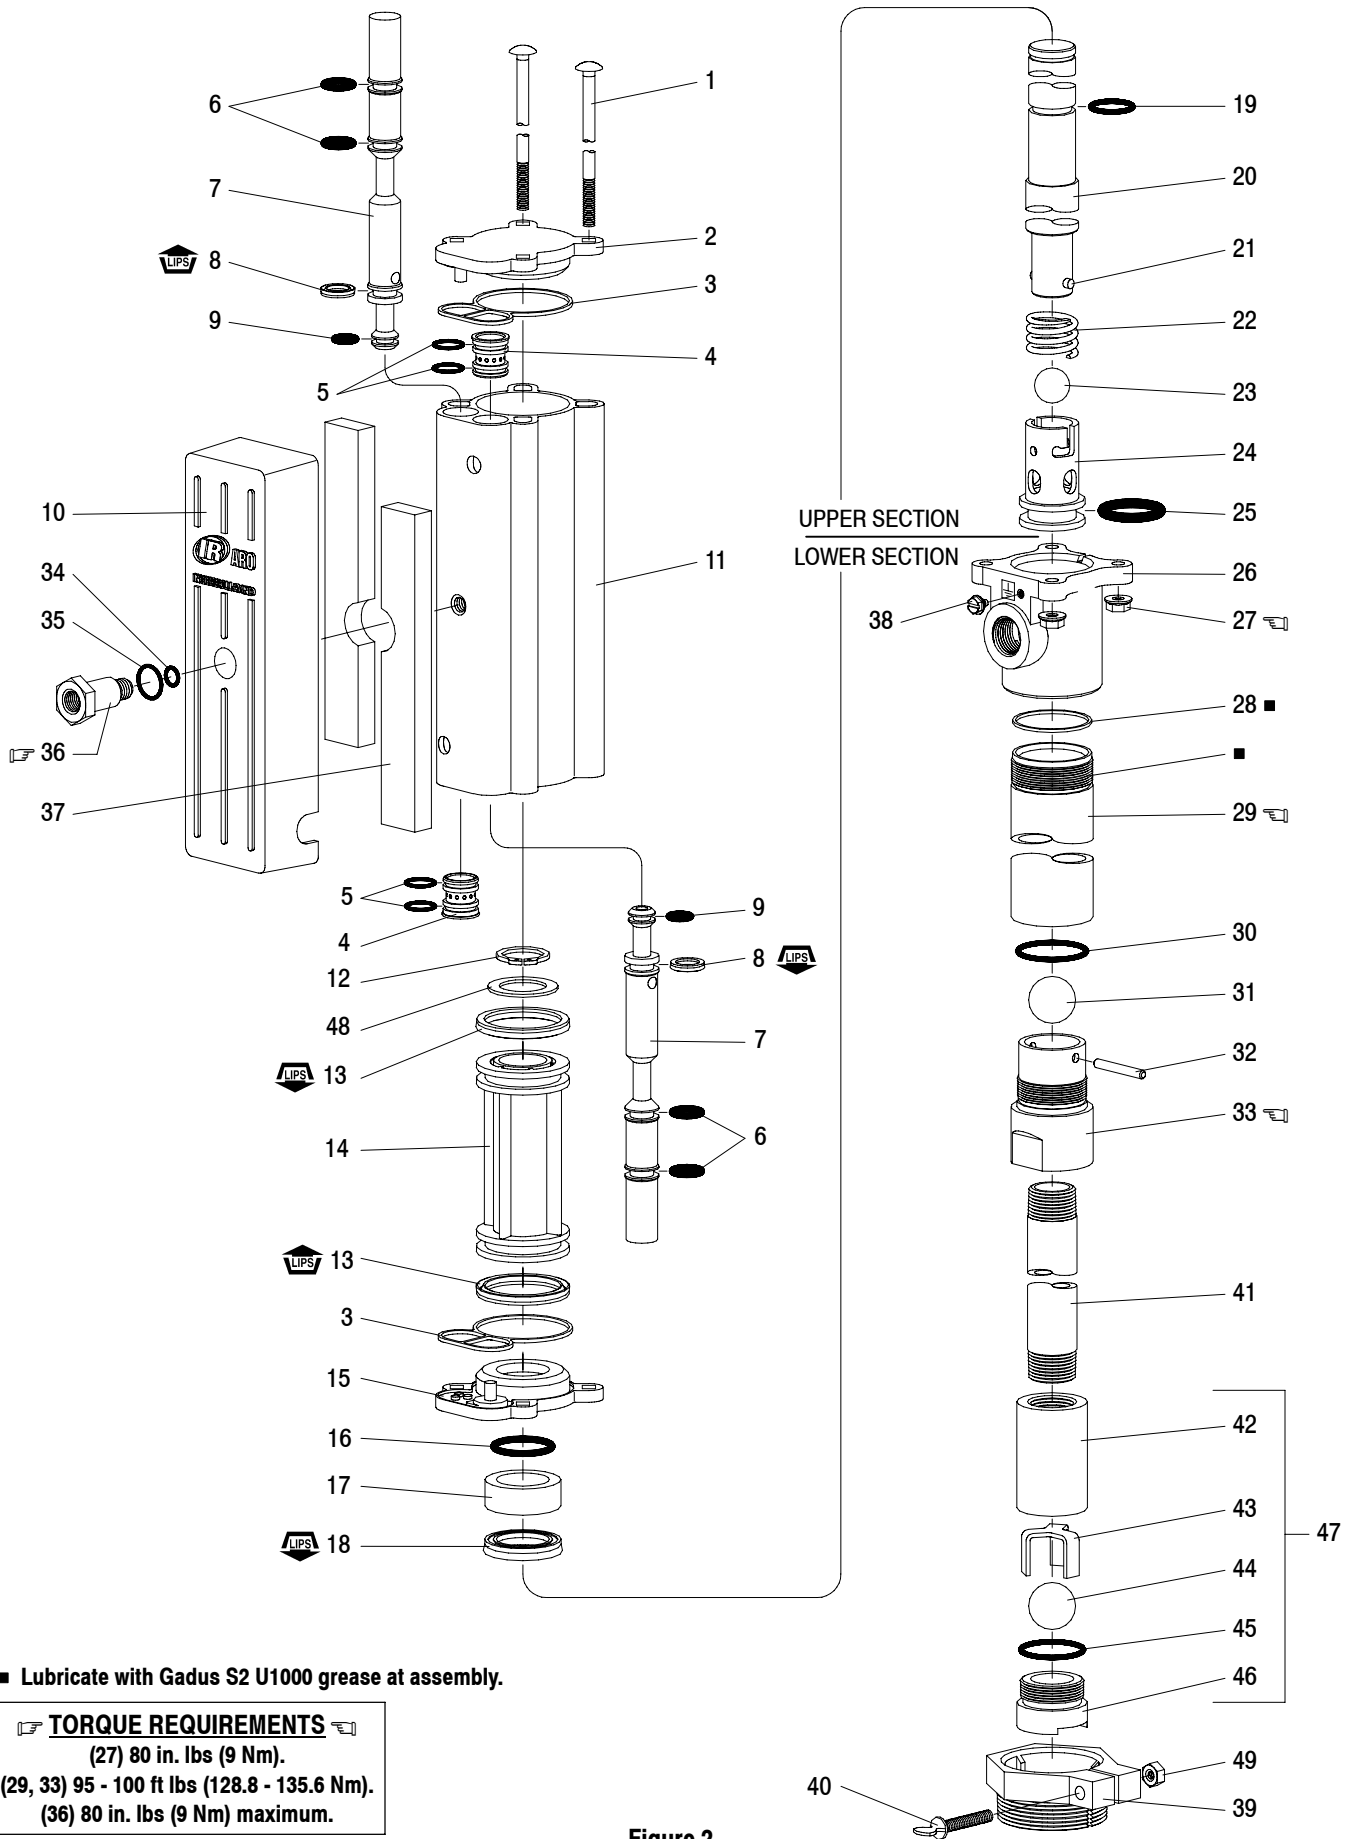

Figure 2
DISASSEMBLY - All threads are right hand. Refer to figure 2. These procedures are for the installation of repair kit parts. Disconnect air supply and relieve all system pressure prior to servicing. Carefully remove the parts, inspect parts for damage, nicks or excessive wear and determine if any parts will need replacement.
Note: Refer to the illustration (figure 2) for "U" cup lip seal direction.
1. Replace the seals on both the (7) spools and (4) sleeves.
2. Locate the valve chamber on the (11) cylinder where the 3/8" dia. hole is located and install one of the (4) sleeves. Insert the (7) spool from the opposite end. Next, install the remaining sleeve and spool.
3. Replace the (3) track gasket and install (2) cap.
4. Replace the (13) piston "U" cups (refer to figure 2 for proper orientation). Replace the (19) "O" ring and assemble (14) piston to (20) piston rod and retain with (48) washer and (12) retaining ring.
6. Replace the (3) track gasket and install the (15) cap. Install the (16) "O" ring onto the piston rod, replace (17) bushing and (18) packing.
7. Replace the (25) "O" ring and re-attach the (24) inner check.
8. Slide the pump assembly back into the (26) base / lower pump section. Press the sections together and align the air inlet and pump outlet as required and replace the four (1) bolts and (27) nuts (tighten to 80 in. lbs (9 Nm).